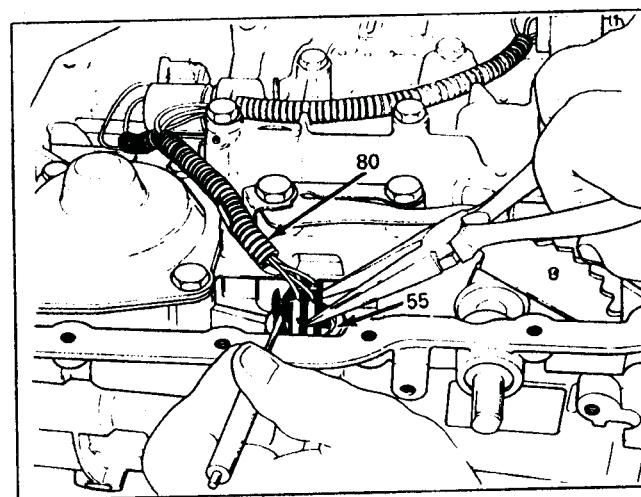

Figure 12
5. Disconnect the wiring harness from the main case connector using a screwdriver to pry back the locking tab, and pliers to pull the plug from the connector, as shown in Figure 12.